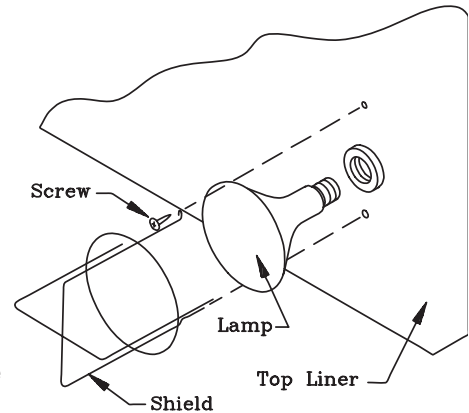

Figure 3
Turn off all switches and allow kettle to cool to touch. Remove the (1) screw holding the lamp shield and pull down on lamp shield to remove it from the top liner. Replace the heat lamp with the same type and wattage lamp. Do not install a lamp higher in wattage than indicated on the label located near the lamp socket (see Figure 3).